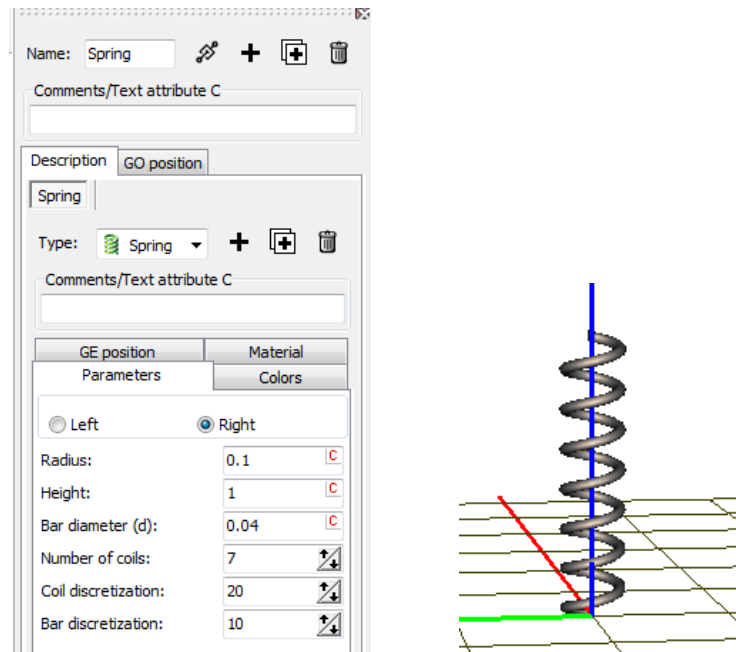

Figure 2.9. Image of spring
2. Select the **Spring** type from the drop-down list. Set spring radius **0.1** m and number of coils 7, Figure 2.9.